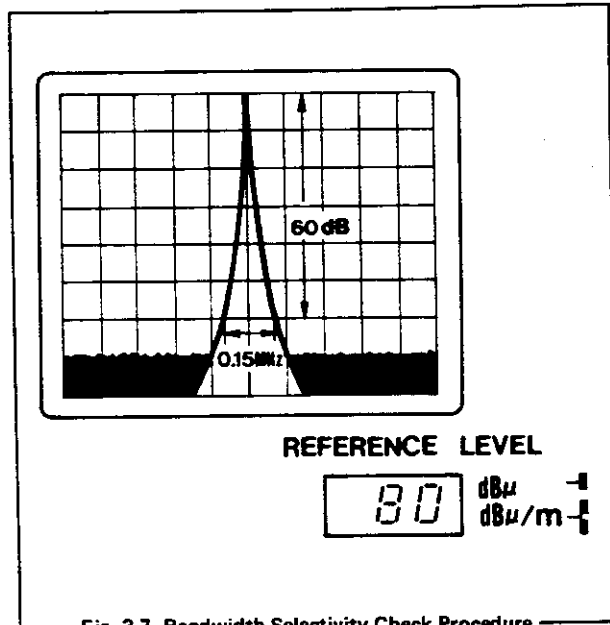

Fig. 3-7 Bandwidth Selectivity Check Procedure
- (1) Reset specific controls from the initial settings (Para 3-3-1-(3)) as follows:
- (2) Turn **TUNING** to center the signal on the CRT display.
- (3) Adjust **IF GAIN-CAL.** to correspond the peak of 100MHz CAL. signal exactly to the horizontal top scale. [Fig. 3-7]
- (4) Check that the bandwidth at 60dB below the signal peak is less than 0.15MHz.